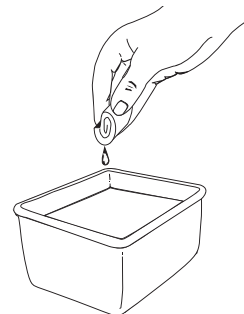

Fig. 46
3. Wash the filter in detergent and water (Fig. 46). Rinse the filter thoroughly and allow it to dry.